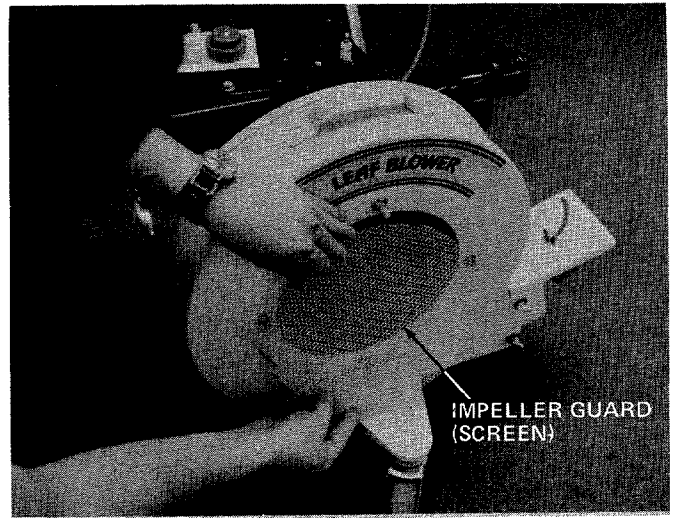

FIGURE 12
2. Lift off impeller guard (screen). See figure 12.